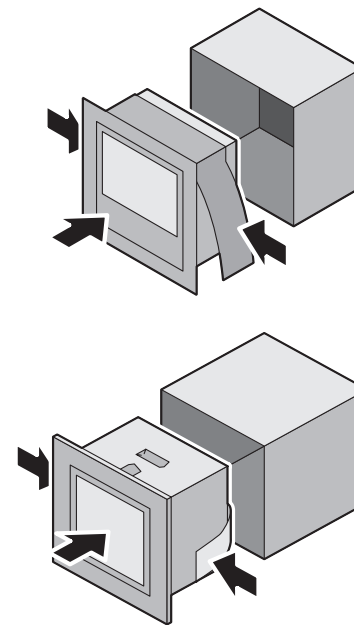

Fig. 2
3. Press springs together and insert flush fitting wall light directly into the wall or poss. a flush-mounted housing or flush-mounted frame (Fig. 2).
4. Press springs together and insert flush fitting wall light into a flush-mounted housing or flush-mounted frame if necessary (Fig. 2).